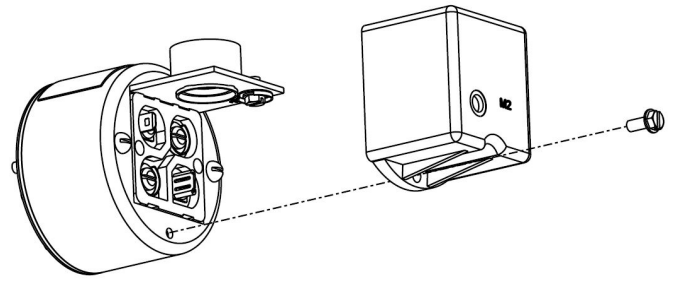

Figure 1
1. Using a flat blade screwdriver remove the one screw that secures the LWCO terminal cover, see **Figure 1**.